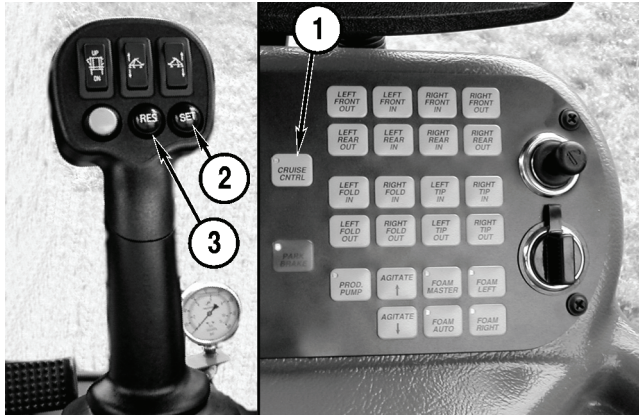

Figure 3-22
1. Turn the master cruise button (**Figure 3-22, 1**) located on the console on.
2. Once the desired speed is reached, push and release the SET button (**Figure 3-22, 2**) on the T-handle.
3. If the engine rpms are decreased or increased, the cruise control will disengage; to resume cruise speed, press the RES button (**Figure 3-22, 3**) on the T-handle to return to the previously set cruise control speed.
The cruise control will operate between 6 and 20 mph (9.7 and 32.2 km/h). If the SET button (**Figure 3-22, 2**) is pressed while the speed is out of range, the command will be ignored.
When the cruise control is set, pressing the RES button (**Figure 3-22, 3**) increases Apache Sprayer speed by one mph for each time it is pressed; pressing the SET button (**Figure 3-22, 2**) when the cruise control is set decreases Apache Sprayer speed by one mph for each time it is pressed.